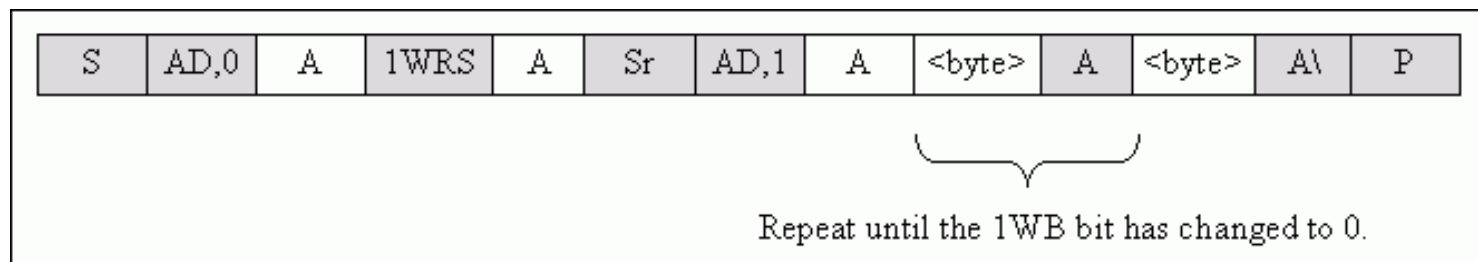

Figure 4. 1-Wire reset. Begins or ends 1-Wire communication. 1-Wire Idle (1WB = 0), Busy polling until the 1-Wire command is completed, then read the result.
The Reset command (0xB4) generates a 1-Wire Reset/Presence Detect at the 1-Wire line. The state of the 1-Wire line is sampled and reported through the Presence-Pulse Detect (PPD) and the Short Detected (SD) fields in the status register. **Figure 4** shows I²C communication for the 1-Wire Reset command. **Example 2** shows the command sent and status register checked for a presence pulse.